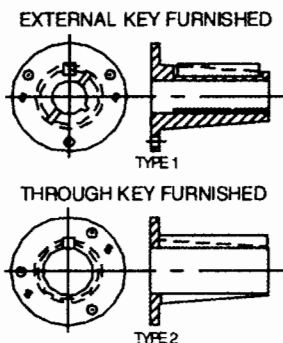

FIGURE 1-1
1.3.4 For Type 1 bushings which require an external key and a shaft key Install key (supplied with bushing) in the external keyseat of bushing as shown in Figure 1-1. Install a shaft key (not supplied) in shaft keyseat and retain to prevent movement. Install bushing on shaft, tapered end first. Align bushing keyway with shaft key and position bushing over key.
1.4.1 For Type 1 bushings which require an external key and a shaft key Install key (supplied with bushing) in the external keyseat of bushing as shown in Figure 1-1. Install a shaft key (not supplied) in shaft keyseat and retain to prevent movement. Install bushing on shaft, flanged end first, align bushing keyway with shaft key and position bushing over key.
1.5.1 For Type 1 bushings which require an external key and a shaft key Install key (supplied with bushing) in the external keyseat of bushing as shown in Figure 1-1. Install a shaft key (not supplied) in shaft keyseat and retain to prevent movement. Install bushing on shaft, flanged end first, align bushing keyway with shaft key and position bushing over key.